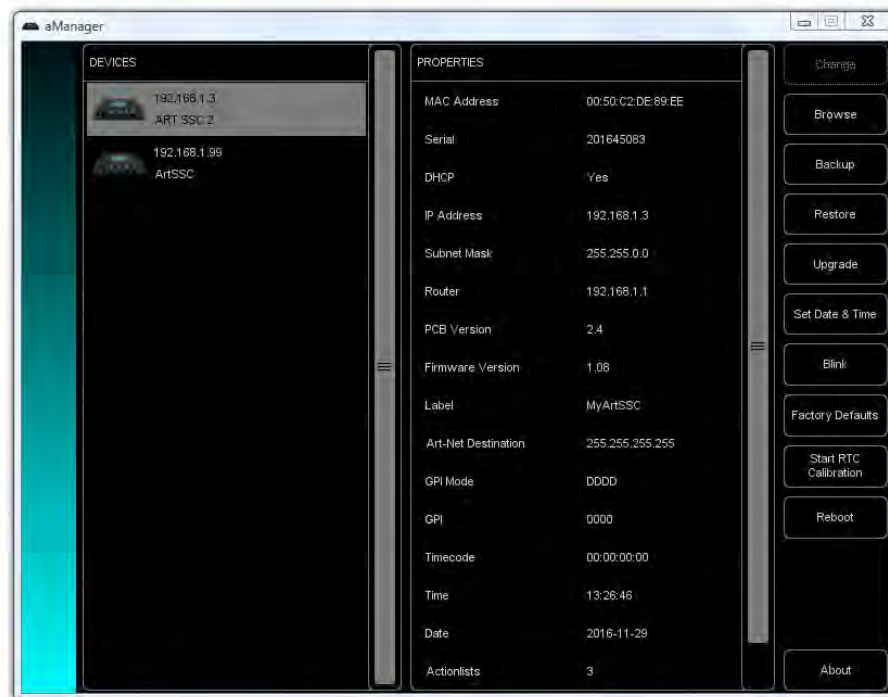

Figure 5.3: aManager
- **aManager** can be used to detect a ART SSC 2 on the network. Once found, the aManager software (figure 5.3) allows for changing the IP address, subnet mask and DHCP settings.
The following section explain the buttons in the vManger, as seen in figure 5.3.